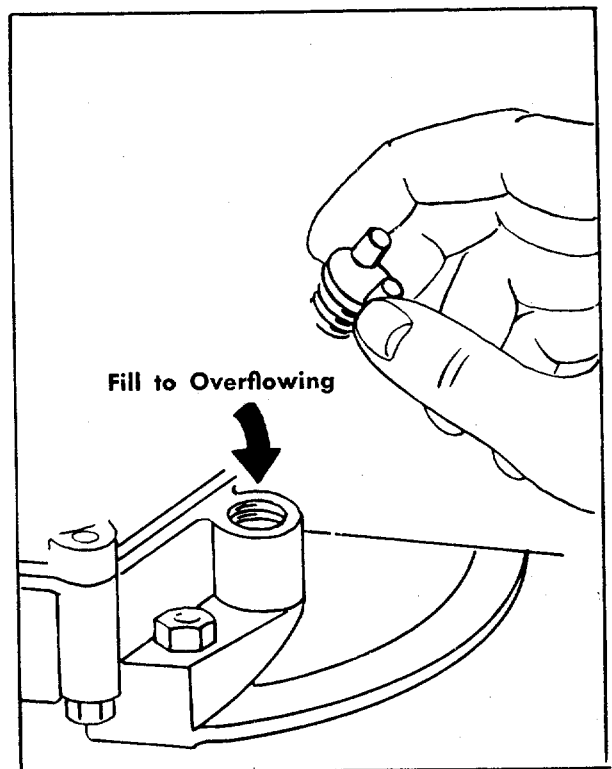

FIGURE 12. OIL FILL
Check the oil level in the crankcase before each use of the machine and after every two hours of operation. Keep the oil level to the overflowing point. See figure 12.
Step 3. With the machine on level ground, remove the oil filler plug. See figure 12. Fill the crankcase until the oil overflows from the oil fill hole. Fill slowly to avoid air locks. The crankcase holds approximately 1¾ pints of good quality SAE 30 type MS engine oil. Replace the oil filler plug.